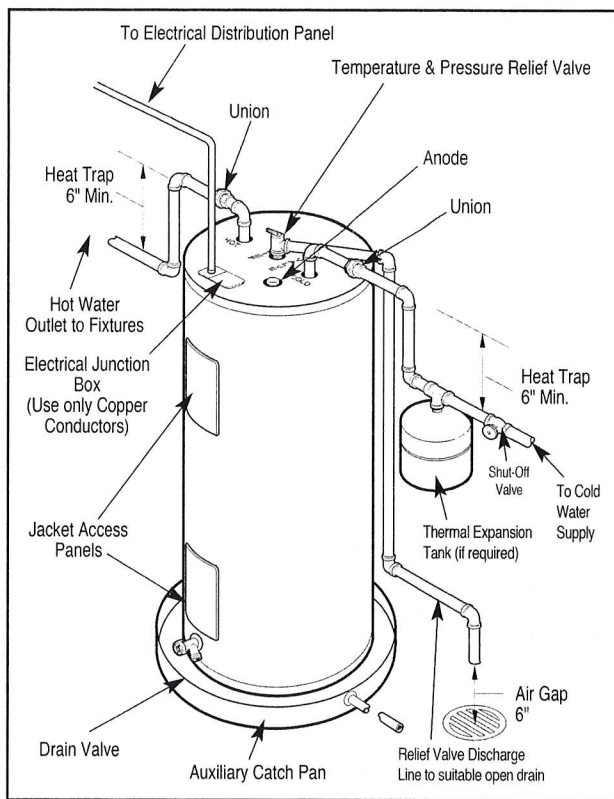

Figure 2. — Typical Installation
the check valve. (refer to Figure 2.) The expansion tank is designed with an air cushion built in that compresses as the system pressure increases, thereby relieving the over pressure condition and eliminating the repeated operation of the relief valve. Other methods of controlling thermal expansion are also available. Contact your installing contractor, water supplier, or plumbing inspector for additional information regarding this subject.
- 3. WATER SUPPLY CONNECTIONS** — Refer to Fig. 2 for suggested typical installation. The installation of unions or flexible copper connectors is recommended on the hot and cold water connections so that the water heater may be easily disconnected for servicing if necessary. The HOT and COLD water connections are clearly marked and are 3/4" NPT on all models. Install a shut-off valve in the cold water line near the water heater.
- 4. RELIEF VALVE** — A new combination temperature and pressure relief valve, complying with the Standard for Relief Valves and Automatic Gas Shutoff Devices for Hot Water Supply Systems, ANSI Z21.22, must be installed in the opening provided and marked for the purpose on the water heater. (Refer to Fig. 2.) No valve of any type should be installed between the relief valve and the tank. Local codes shall govern the installation of relief valves.